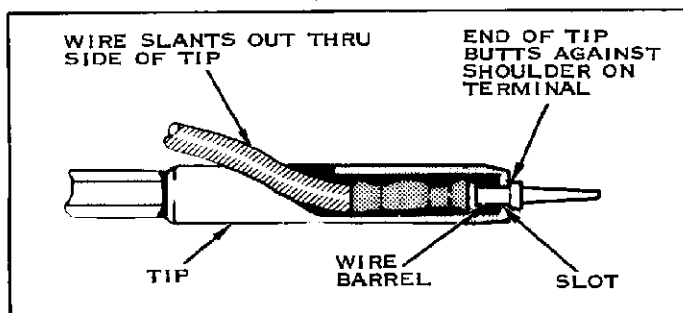

FIGURE 2
2. Place the Wire Barrel of the Terminal into the Slot in the Tip of the Tool. See Figure 2. The end of the Tip must butt against the shoulder of the terminal.
3. Let the Wire slant out thru the side of the Tip. Use your finger to hold the Terminal in the Tip. See Figure 2.